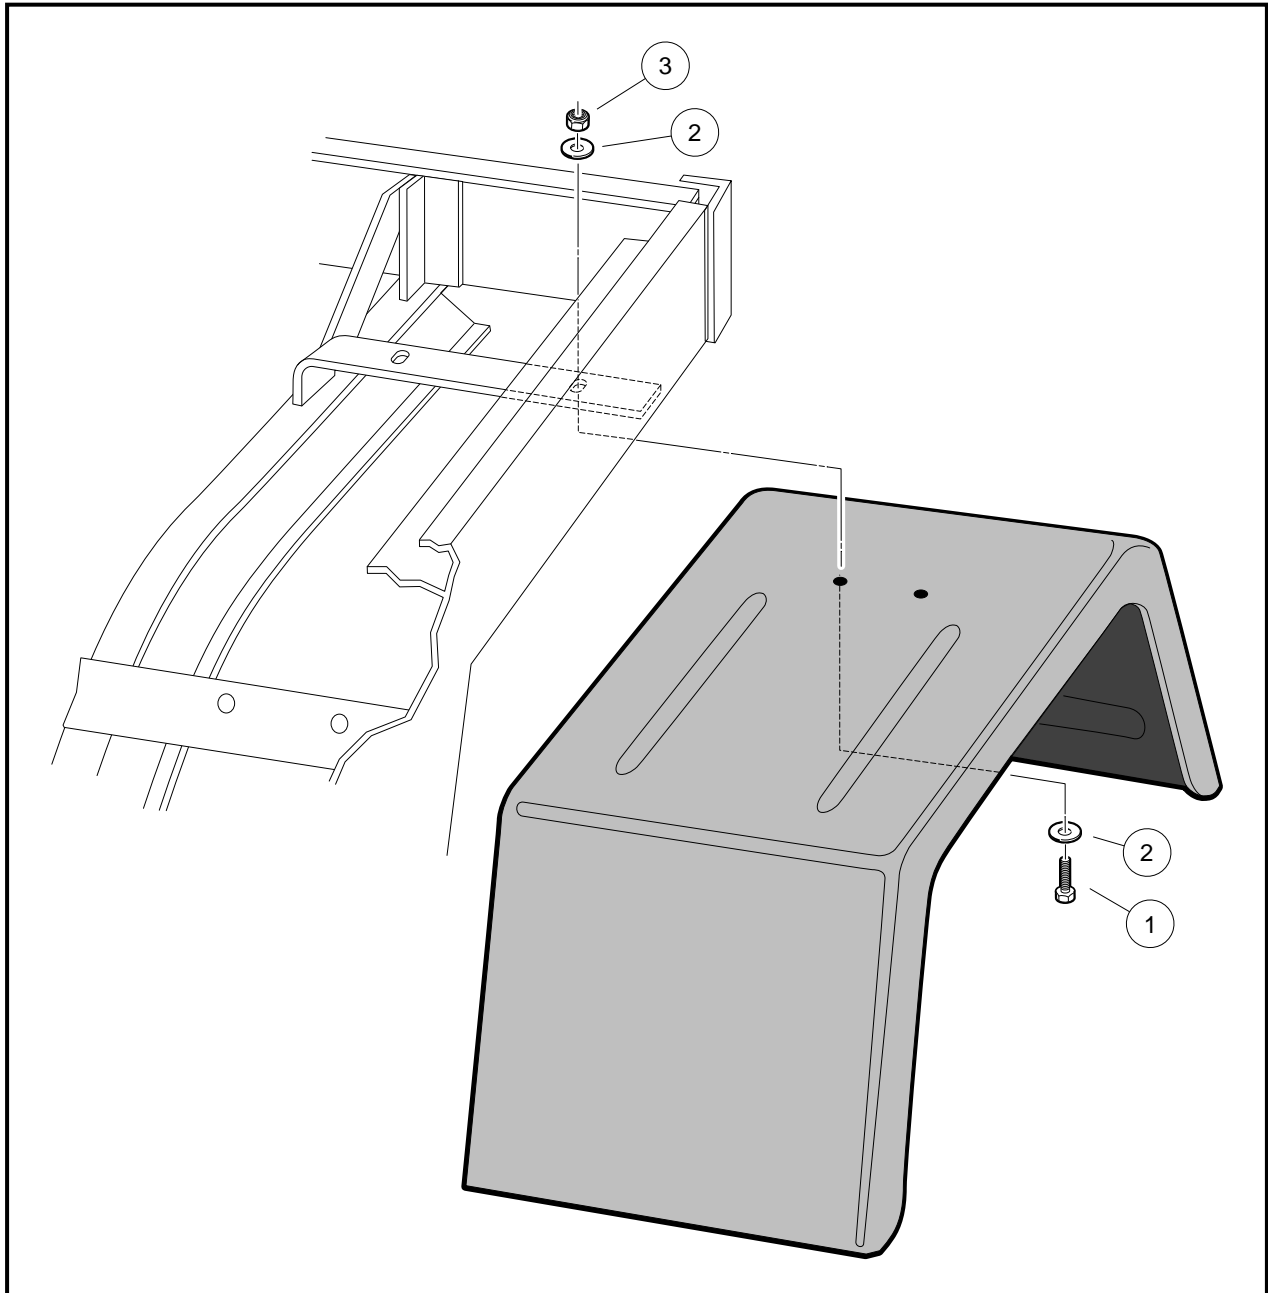

Figure 1 Install Hardware in Fender Hole
3. Position a fender in the vehicle, align the hole in the fender with the slot in the frame as shown and install bolt (1), flat washers (2), and locknut (3) (**Figure 1**). Finger-tighten only at this time.